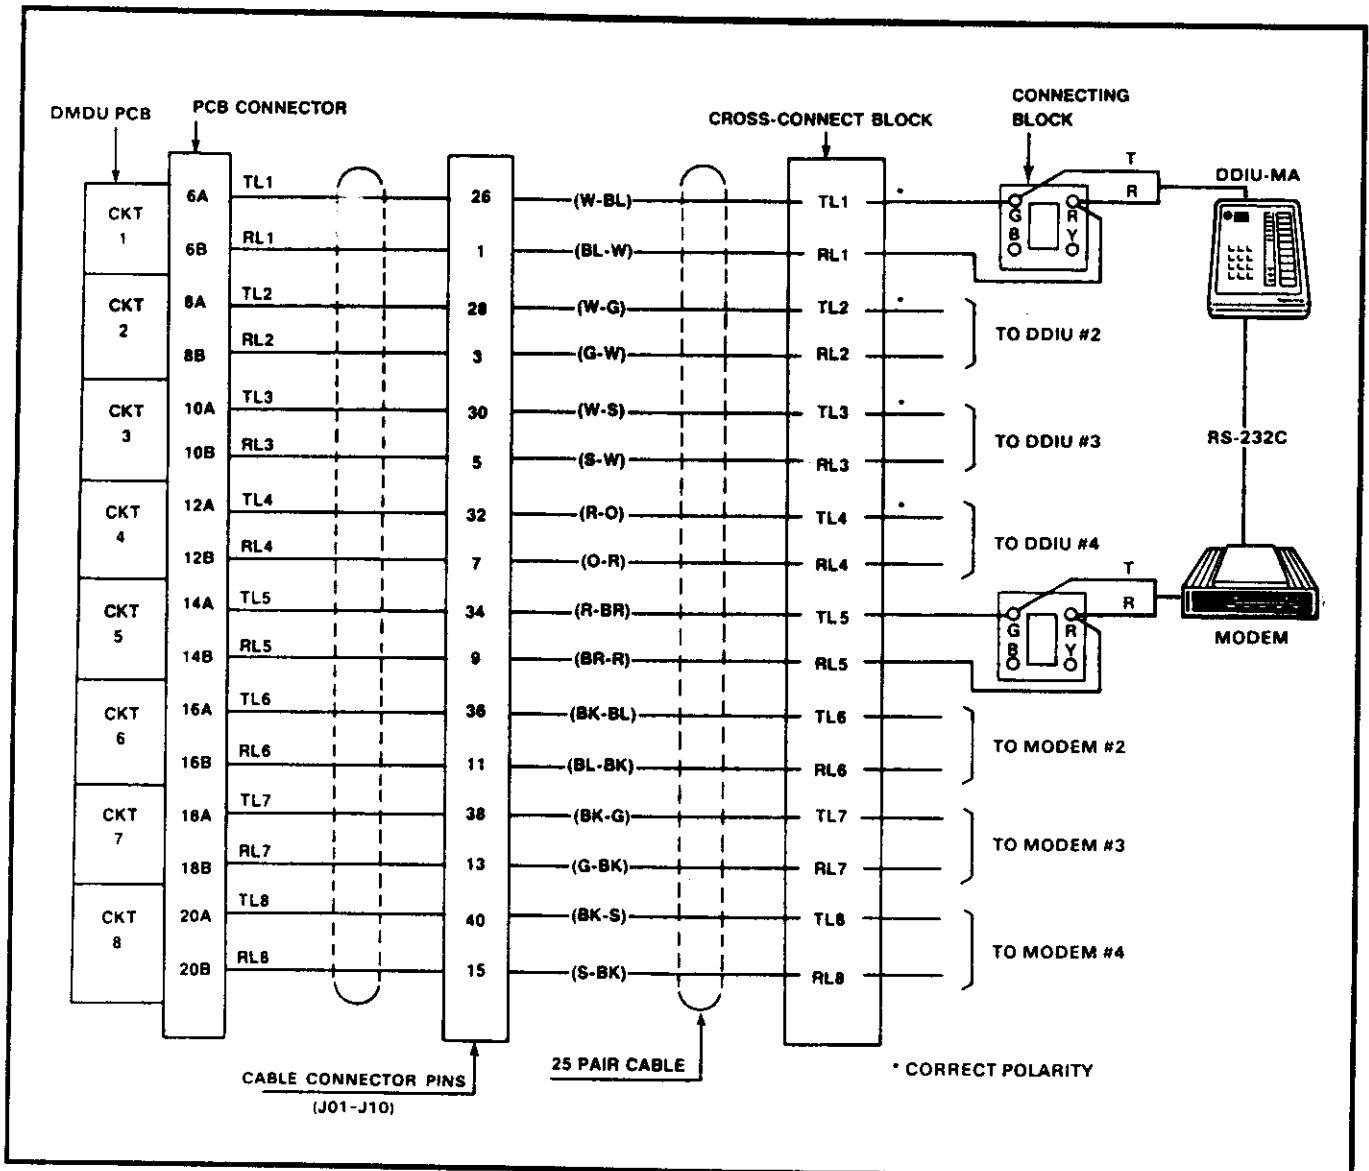

FIGURE 32—MODEM POOLING CONNECTION
08.32 Most modems require only single-pair wiring and are connected to the MDF via standard twisted-pair telephone cable. Some modems, however, may require a two-pair connection (one for transmit-one for receive). For this type of connection, use the next wire pair (which is not normally used). Cable connections for modem pooling are summarized in Figure 32.